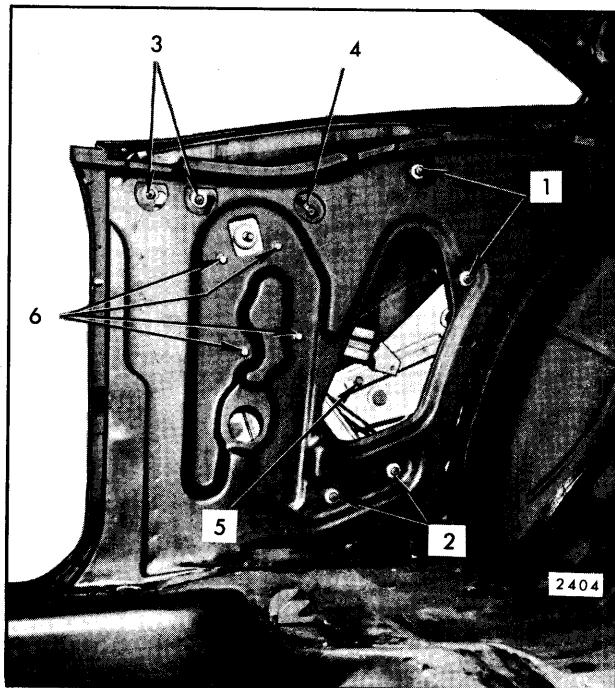

Fig. 7-37—Rear Quarter Hardware - "B-C" Coupe Styles
2. With window in full-up position, remove front guide upper and lower adjusting stud nuts ("2" and "3", Fig. 7-37).